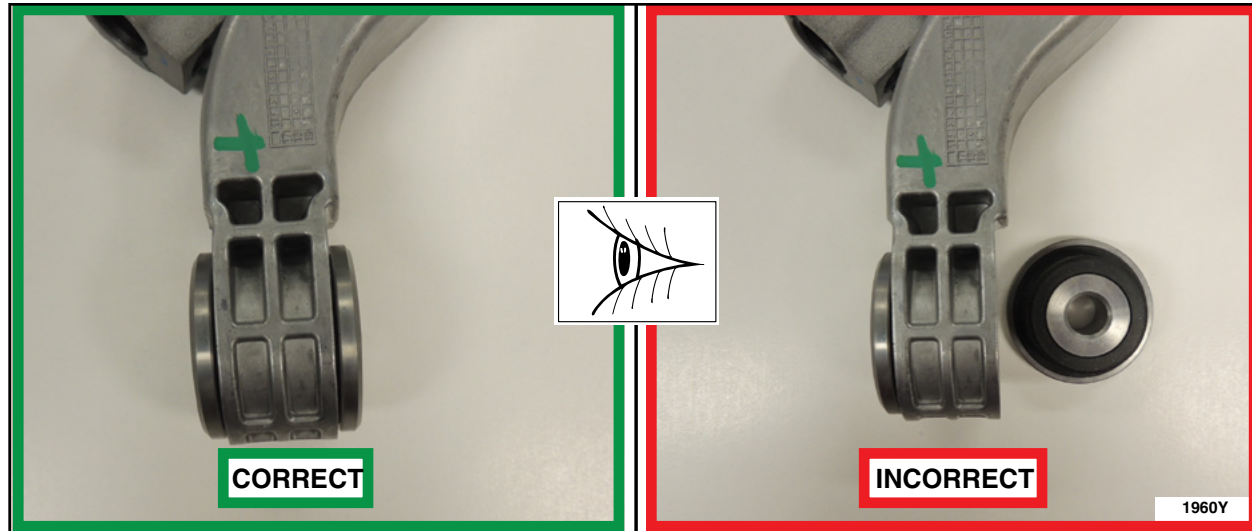

FIGURE 17
18. Prior to installation, inspect to ensure the rear bushings are intact. If the bushings are loose, reinstall. See Figure 17.